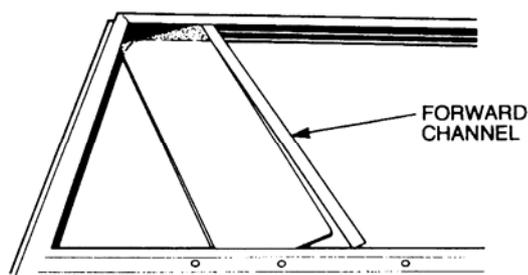

Figure 24 Quarter Window Glass Removal
- pp.** Pull the forward channel from the glass (refer Figure 24).